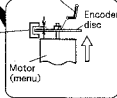
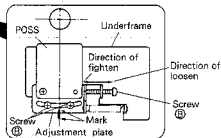
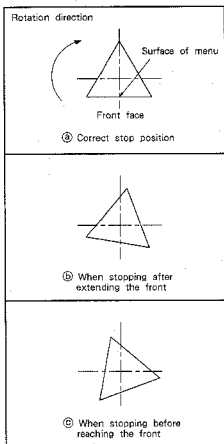

Fig. 7-2
Fig. 7-3
Fig. 7-4
- Loosen the screw ③ which holds the encoder disc using a hexagonal wrench.
- Loosen screw ④ which holds the adjustment plate.
- (1) Set the gap between the encoder disc and photo interrupter of the motor (menu) to  $1\frac{1}{16}$  mm. (Fig. 7-2)
- (2) Fix the screw of the encoder disc by tightening with a hex wrench.
- (3) Turn screw ⑤ so that the carved mark on the adjustment plate align with the underframe. Then temporarily tighten screw ④.
- (4) Push the ROTATE MENU key on the front panel of the main unit so that menu rotates. Then, perform the following adjustments depending on the condition. (Fig. 7-3)
- When the menu stops after extending past the front ..... Loosen screw ④, then tighten screw ⑤ turning it clockwise.
- When menu stops before reaching the front ..... Loosen screw ④ and turn screw ⑤ counterclockwise to loosen it.
- (5) Turn the menu again and firmly tighten screw ④ when the menu stops directing its surfaces to the front. (Fig. 7-4 ⑥)
- (6) Finally, turn the menu and check that the menu stops directing all of its three surfaces to the front at every 120° rotation.